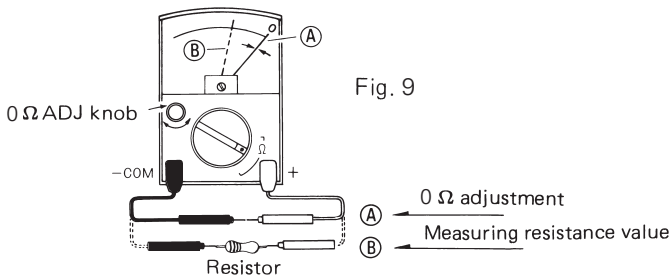

Fig. 9
$0\ \Omega$ adjustment, in other words, fullscale adjustment must be done prior to using the tester. Short + and -COM terminals together as shown in Fig. 9 (A), turn the zero ohm adjuster ($0\ \Omega$ ADJ) knob, and align the indicator pointer to the rightmost $0\ \Omega$ line of the Ω scale. After this adjustment is finished, proceed to measurement. If this adjustment is done whenever the range is switched, more accurate indicated value can be obtained.